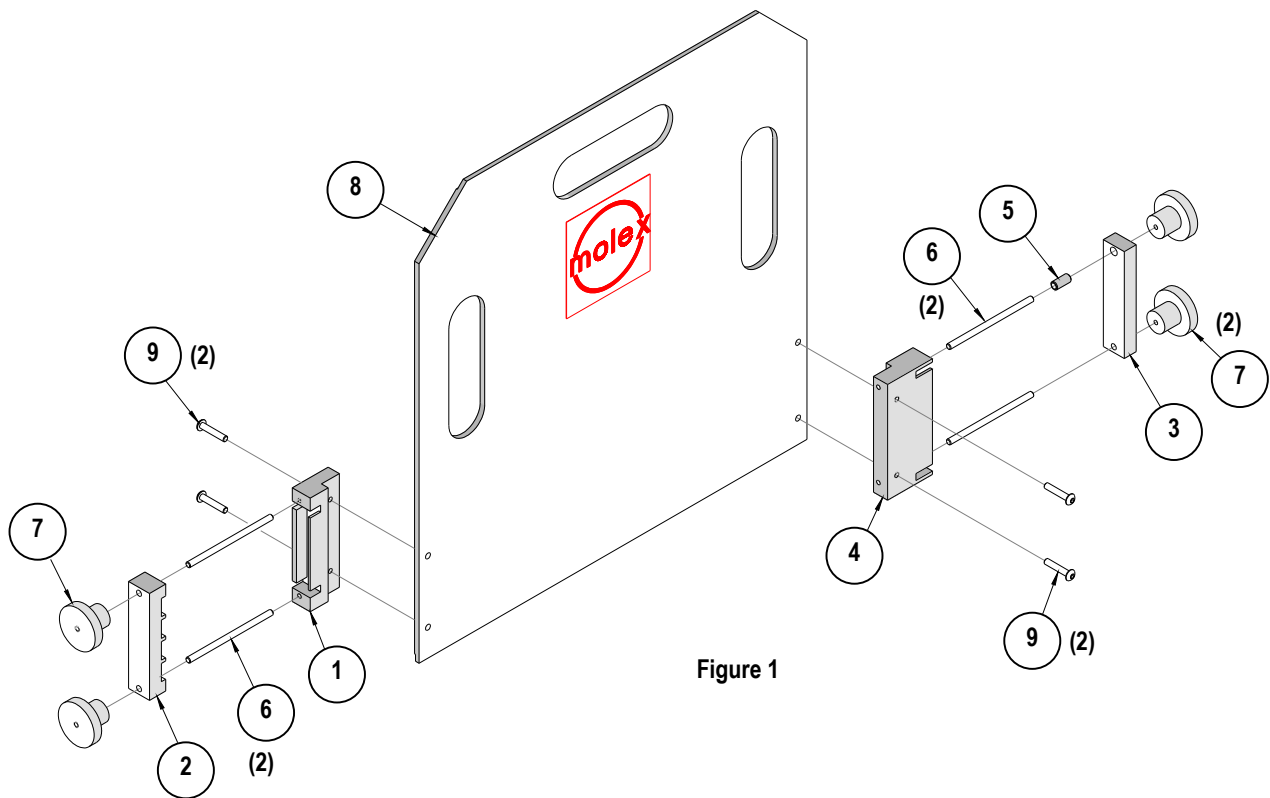

Figure 1
1. From the back of the cabinet, disconnect the connector and cables attached to the adaptor assembly that is being removed. See Figure 1.